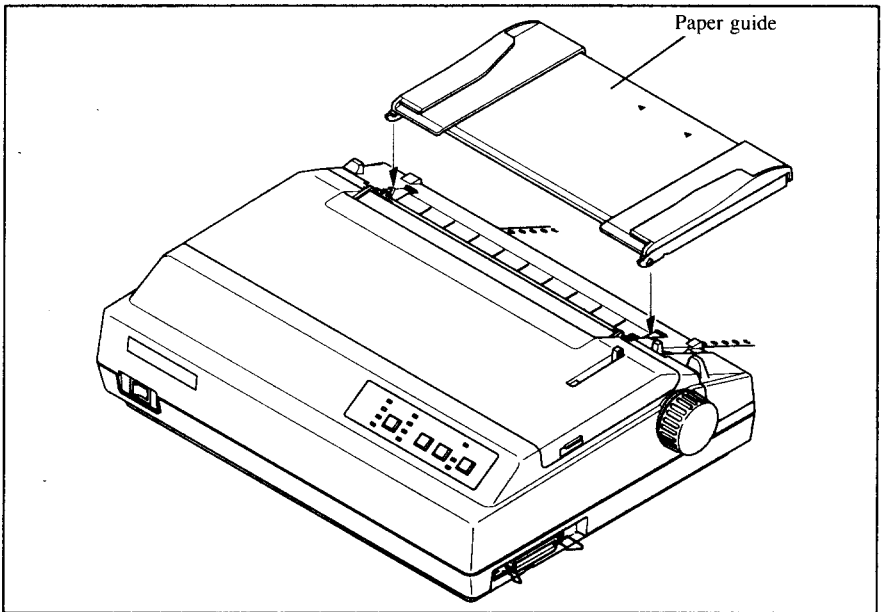

Figure 1-12. Mounting the paper guide for fanfold forms
13. Mount the paper guide in the horizontal position shown in Figure 1-12, so that it will separate the printed from the unprinted paper.